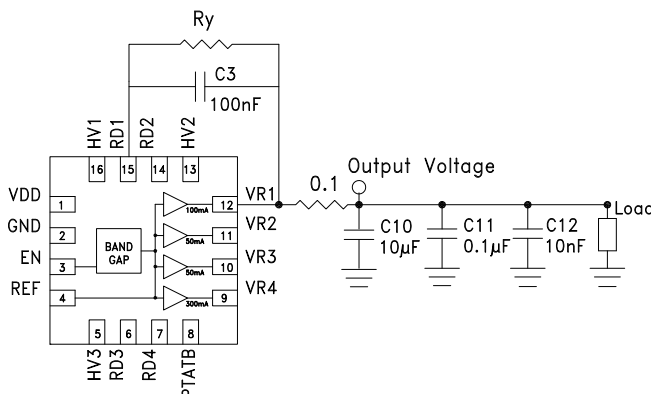

Figure 13. Recommended HMC1060LP3E configuration for supplying output voltage values less than default. [1]
The outputs of the HMC1060LP3E are configured to supply voltages less than the default values, down to 1.8 V minimum, by connecting a resistance (R_y in Figure 13) between pins VR_x and RD_x (where $x = 1,2,3,4$). Figure 13 shows an example of configuring VR1 output. Other outputs are configured in exactly the same way (ie. R_y is added between VR2 & RD2, VR3 & RD3 and between VR4 & RD4).
2. To set VR1 = VR2 = VR3 = 1.8 V in with PTAT Mode disabled, external resistance Ry = 21 kΩ shown in Figure 13 is required.